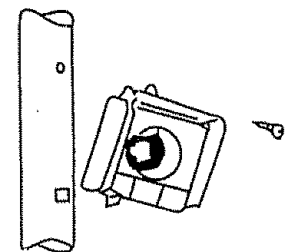

FIG. 5
3. Attach switch box to rear of upper handle tube. Place switch box tab (no hole) into rectangular hole (Fig. 5). Position box against handle tube. Fasten using the small screw provided in the hardware package. DO NOT OVERTIGHTEN.